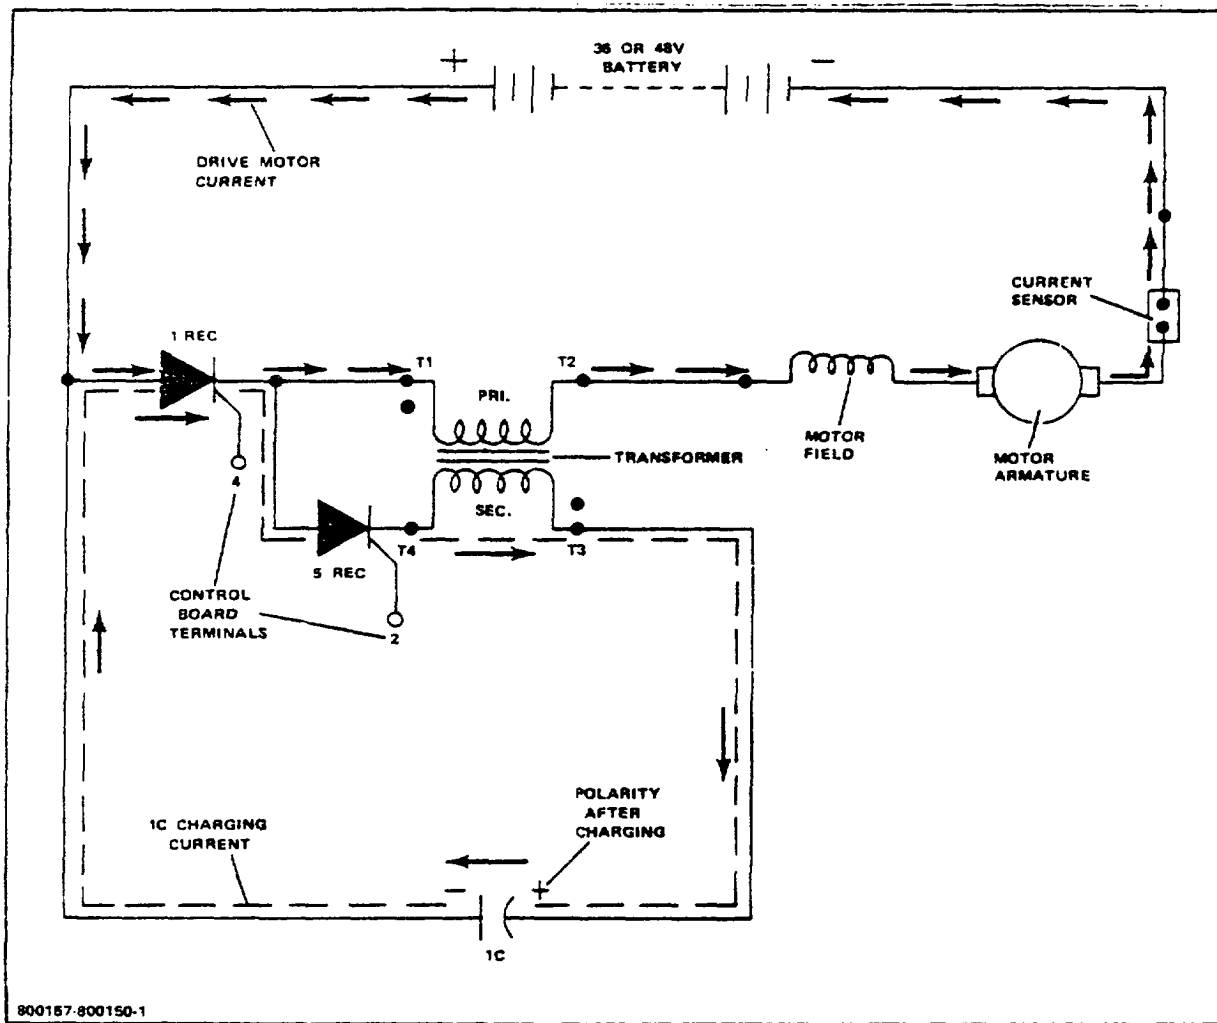

Figure 1-7. Basic Power Circuit (1 Rec Turn-on) and 1C Charging Circuit
3. Basic Power Circuit (1 Rec Turn-On) and IC charging circuit (Fig 1-7).